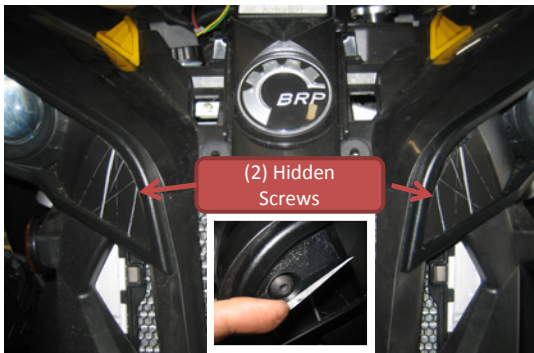

Figure 8
- Remove the four (4) Torx 20 screws from the BRP Bumper
- (2) located behind the plastic stickers near the head lights (Figure 8). Peel sticker away with care and remove bolts using a 10mm wrench to secure the nut on the reverse side. (Figure 8)